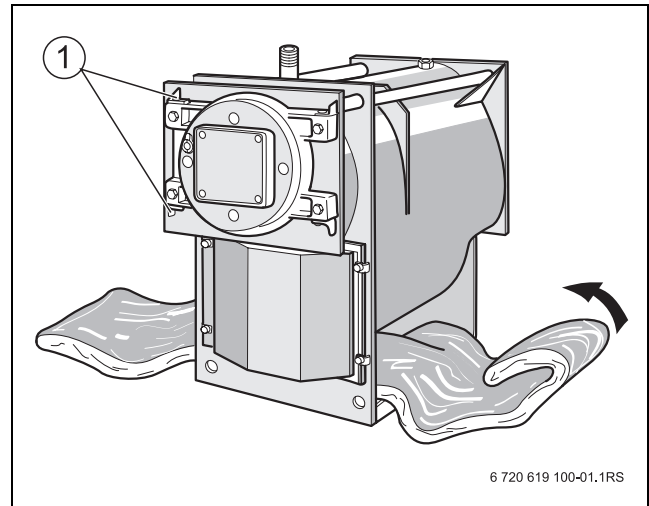

Fig. 7 Push the insulation underneath the boiler through to the opposite side.
- ▶ Make sure that both hinge bolts (→ Fig. 7, [1]) are inserted.
- ▶ Push the insulation underneath the boiler through to the opposite side (→ Fig. 7).